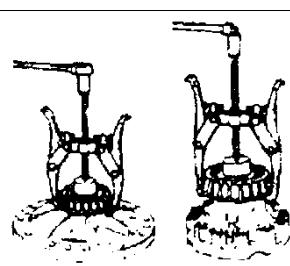

Figure 3-18
7) Removing the ball- bearing in the differential (Figure 3-18)